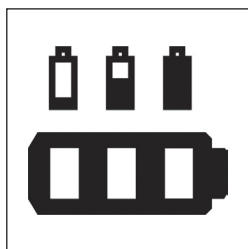

Figure 10 Battery indicator on hand control.
- There is a battery indication on the hand control (See figure 10).